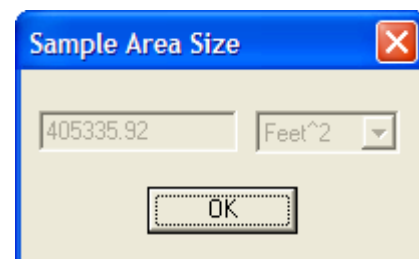

Figure 2.9. Map with a Single Sample Area
2. **Corner-Selection Method.** Position the cursor on each corner of the Sample Area and left-click with the mouse. If you hold down the Shift key while clicking, the nearest point on the map will be selected. If you make a mistake in choosing a corner, use the **Undo** feature. When you have finished defining the Sample Area, either click the **Finish Area** button on the VSP toolbar, select Main Menu option **Edit > Sample Areas > Finish New Sample Area**, or right-click the last segment in the corner selection method. The area dialog box appears (**Figure 2.9**). Note: A Sample Area cannot cross over itself. If this happens, an error message—"This area is not valid and will be removed"—appears.